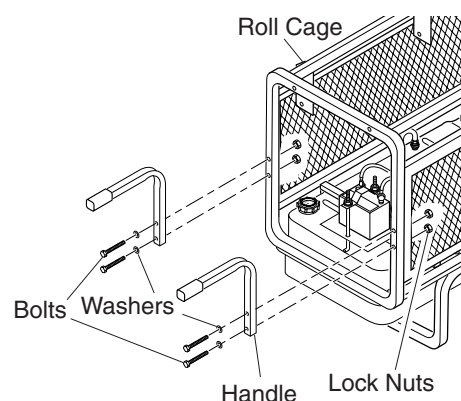

Figure 7 - Attaching Handles to Roll Cage
1. Remove the two bolts, lock nuts, and washers holding side panels to control panel end of roll cage. Insert bolts with washers through two holes in the handle and then back through roll cage and side screen panels (See Figure 7). Tighten the lock nuts against the side screen panels.